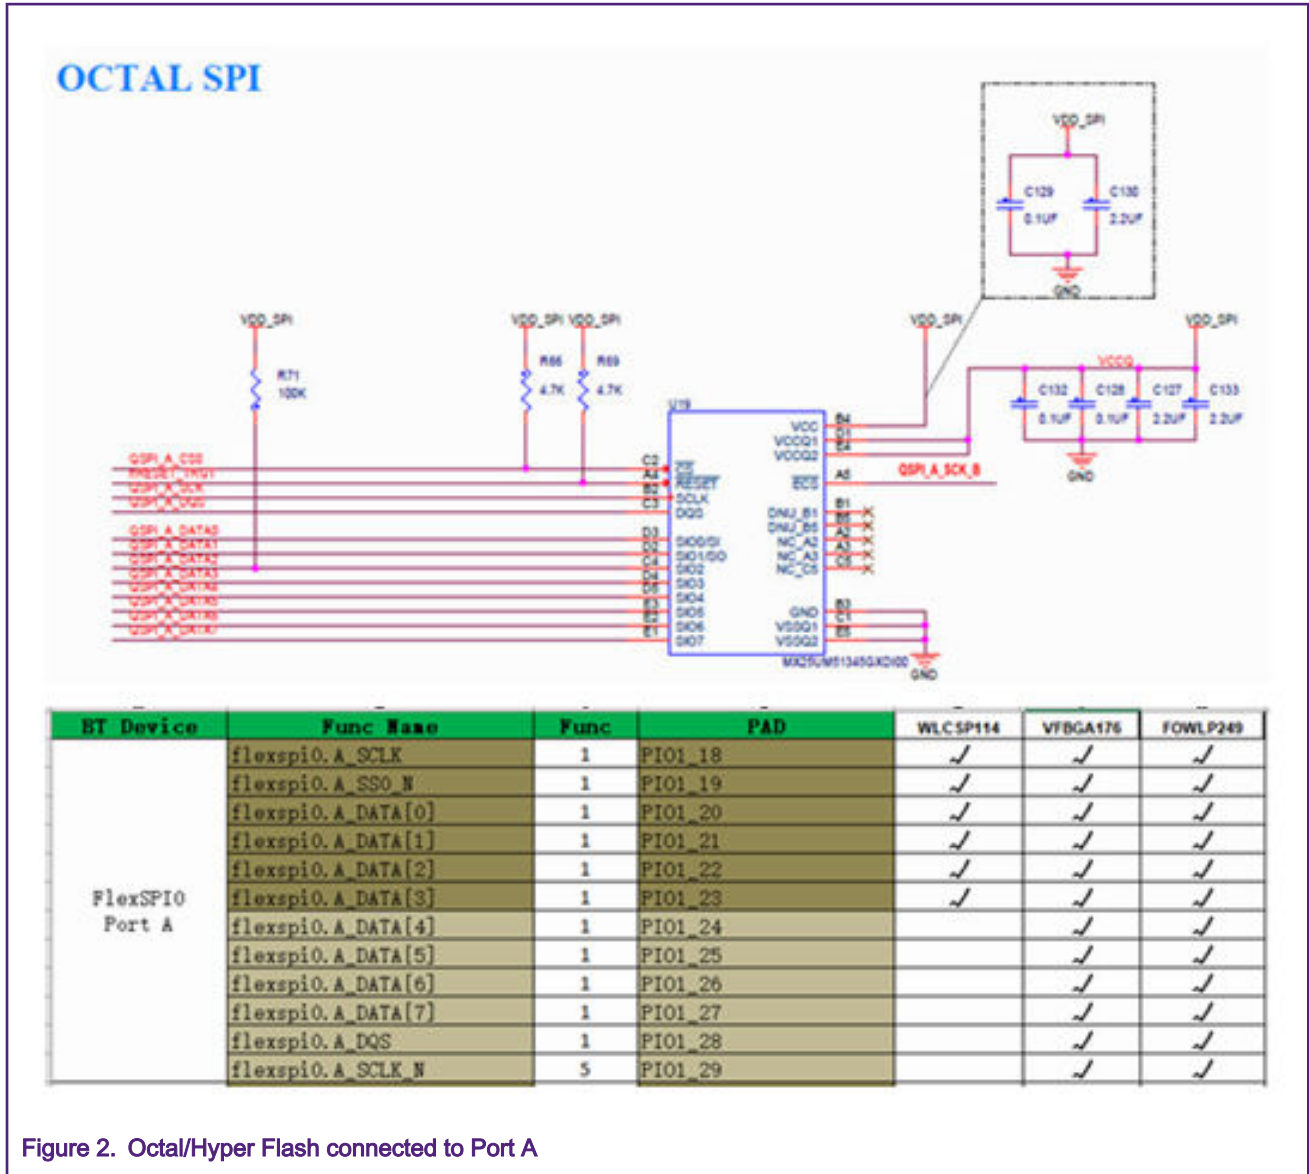

Figure 2. Octal/Hyper Flash connected to Port A
- The third way is to connect Octal/Hyper flash to FlexSPI Port A, as shown in Figure 2.